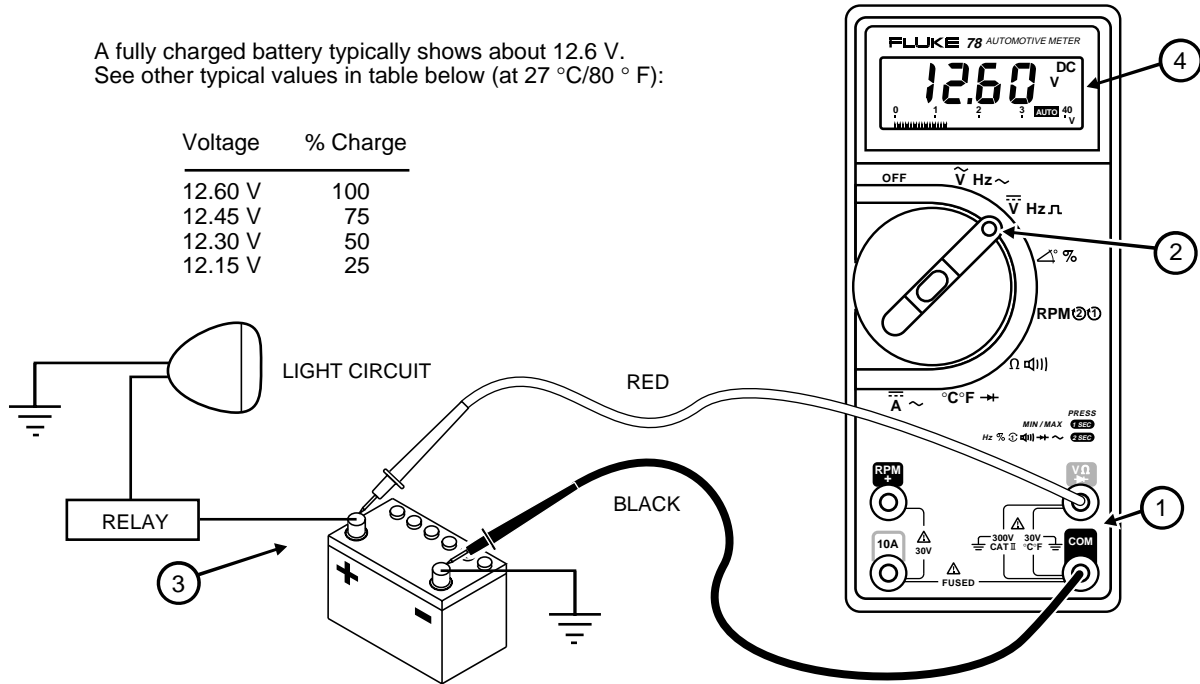

Figure 5. Measuring No-Load Voltage of Battery
1. Insert the test leads into the jacks (Figure 5).